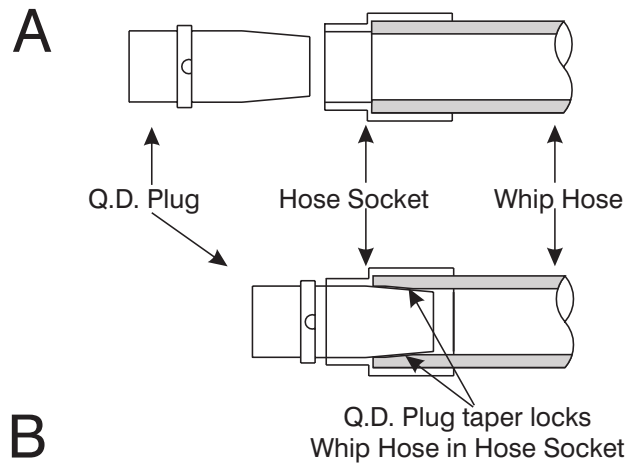

Figure 11-17. Thread Tapered End of Q.D. Plug into Hose Socket.
6. Start the tapered end of the Q.D. Plug (15) into the Hose Socket. See Figure 11-17-A.
7. Use a 1-1/2-inch open-end wrench to tighten the Q.D. Plug (15) into the Hose Socket (14). See Figure 11-17-B.